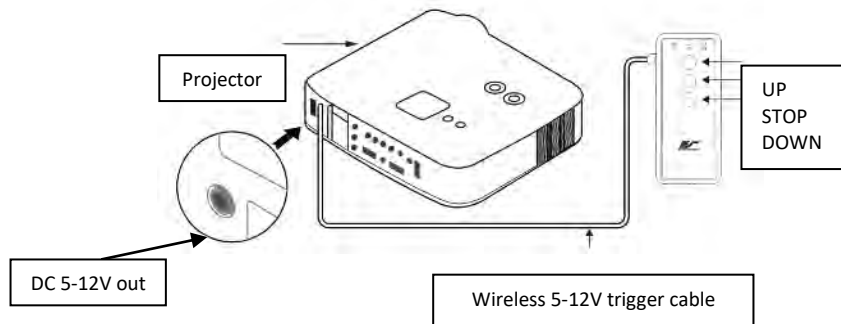

Fig.5
**6. Wireless 5-12 volt trigger (Item F, Fig 5):** The RF remote control serves as a dual purpose, independently as a handheld remote control, or as a Wireless 5-12 volt trigger using the trigger cable. The radio frequency technology can be programmed to send a wireless signal that synchronizes screen drop & rise with the projector's power cycle.